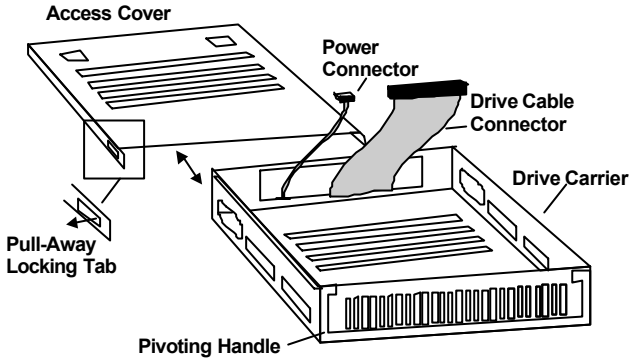

Figure 2-3: Drive Carrier Assembly
2. Remove the drive carrier from the housing assembly by firmly pulling on the drive carrier's handle (see Figure 2-3).
3. On the left side of the drive carrier cover, pull the small metal tab slightly away from the cover, then slide the cover back off (see Figure 2-3).